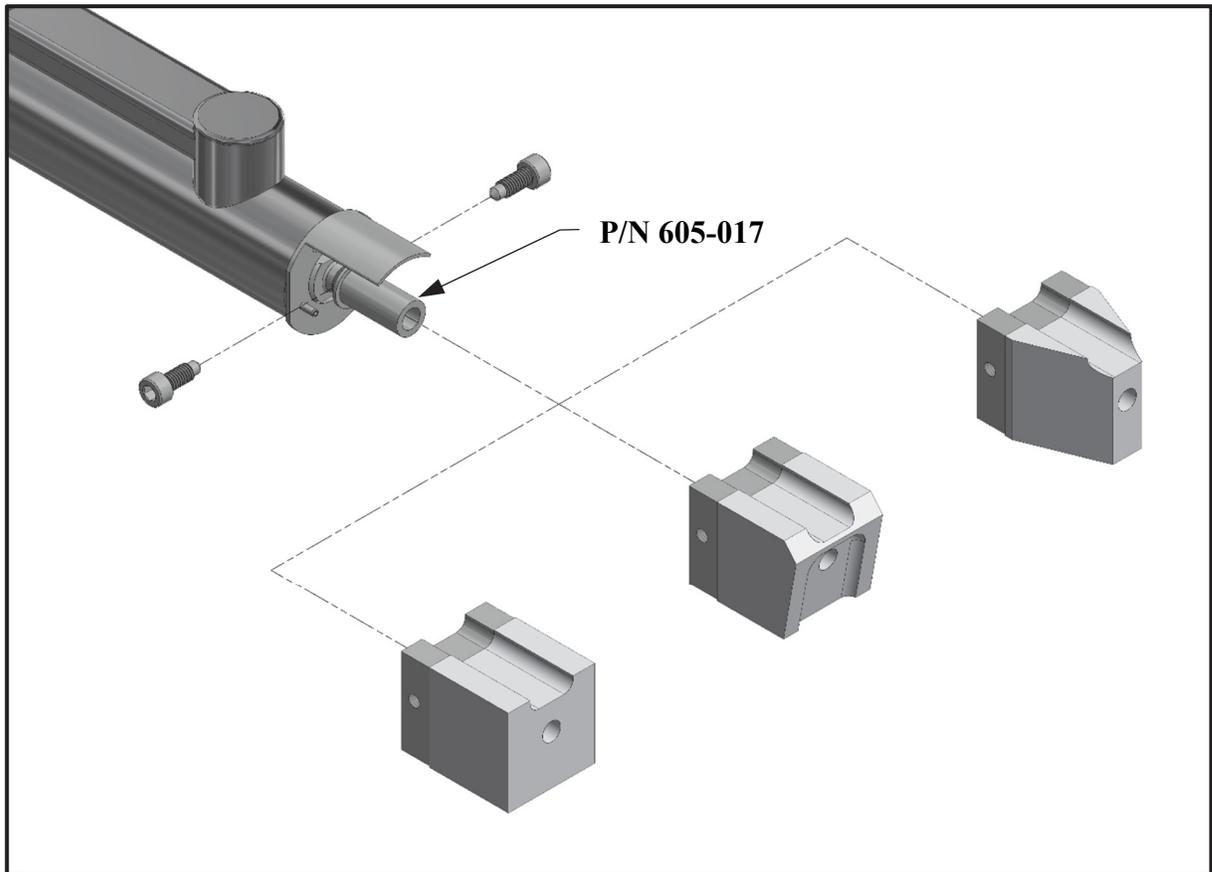

Figure 7.5
- b. Remove the Shoe Assembly from the Nozzle, part number 605-017. Due to melted plastic material buildup removal may require strong twisting clockwise-to-counterclockwise, wiggling from side-to-side and substantial pulling force to remove (see Figure 7.5).